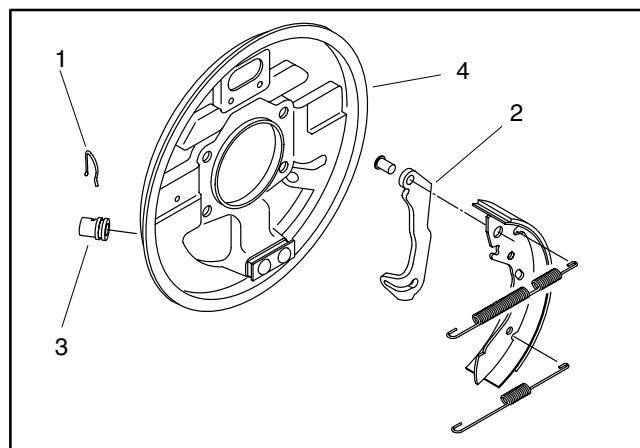

Figure 11
6. Remove cable clip that holds each brake cable into brake backing plate. Remove cable end from parking brake lever (Fig. 11). Pull cable from rear brake assembly.